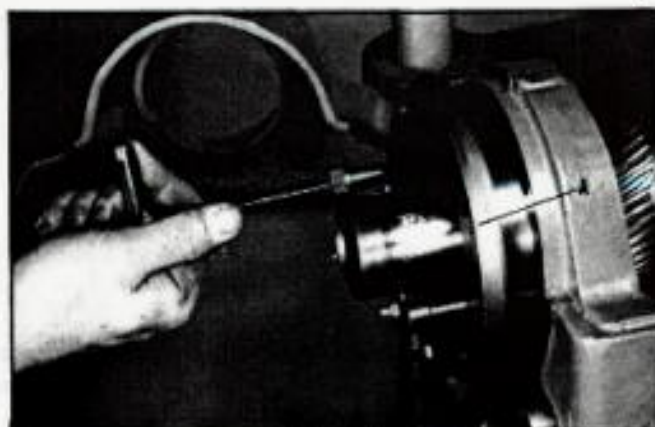

Fig. 37.
11. Remove outboard bearing retainer (A) Fig. 37, by screwing two 3/8-16 x 2" screws into the tapped holes as shown. Tighten the two screws evenly until the outboard bearing retainer pulls free. The outboard bearing is removed with the outboard bearing retainer.